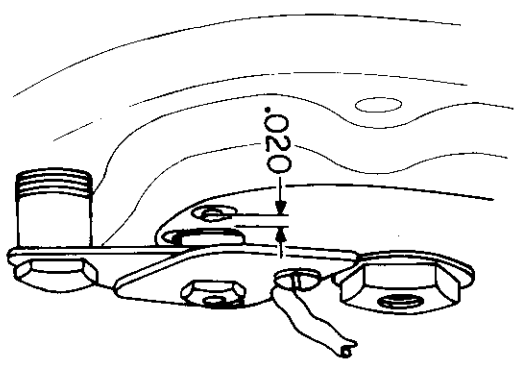

FIG. 1
- 9.0 The Magnetic Pick-up Assembly mounts in a previously unused hole at the leading or forward edge of the stator. Before installing this assembly, clean off the area around the hole so that none of the plastic flashing of the stator winding will be between the pick-up spacer and the stator laminations. Position the Pick-up Assembly as shown. **Do not tighten.** Slowly and carefully, so as not to damage the pick-up coil, rotate the mainshaft until the longer pin and the pick-up coil are aligned. Check for a small air gap as shown. Add or subtract washers until pick-up coil has approximately .020" (twenty thousandths inch) air gap. (Ref. assy. dwg. Fig. 1 & 2)